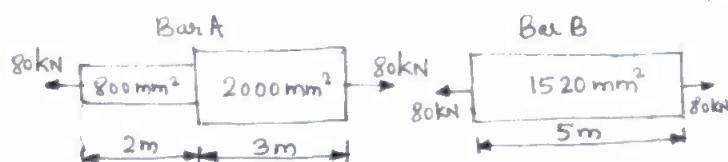

Fig. Q10(b)
b. Calculate the strain energy stored in a bar shown in Fig. Q10(b), subjected to a gradually applied axial load of 80kN. Compare this value with what obtained in uniform bar of same length and having the same volume, when subjected to the same load. $E = 2 \times 10^5\text{N/mm}^2$. (10 Marks)